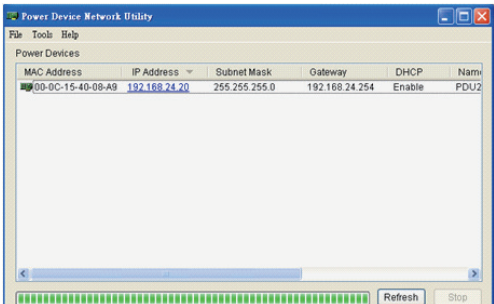

Figure 6. Equipment List
Step 1. Select the appropriate PDU device from the Equipment List (Shown in Figure 6).